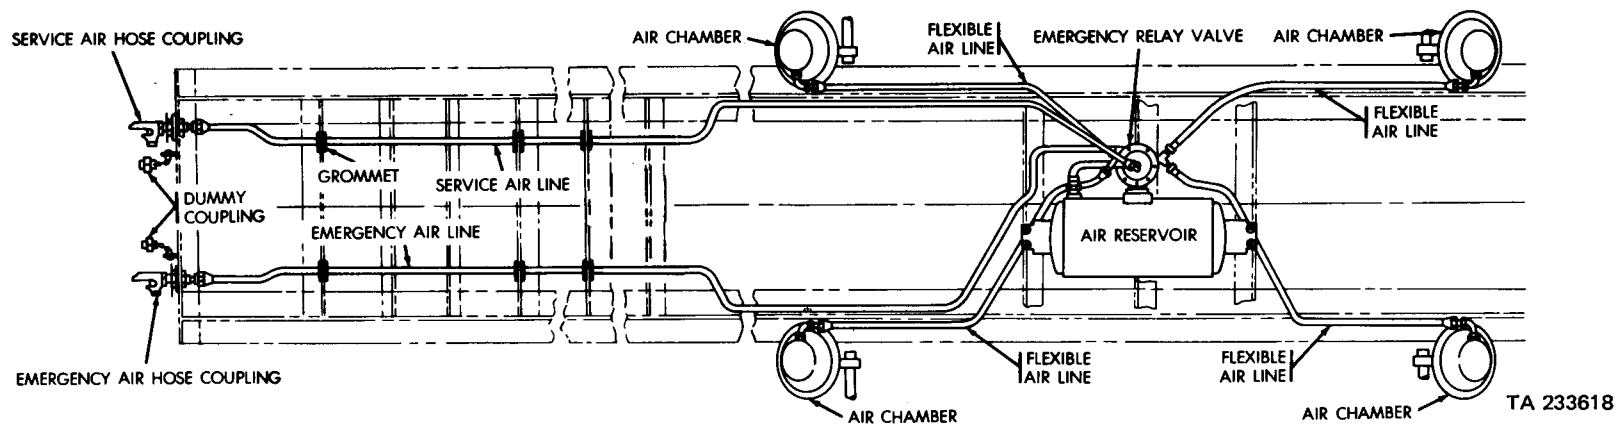
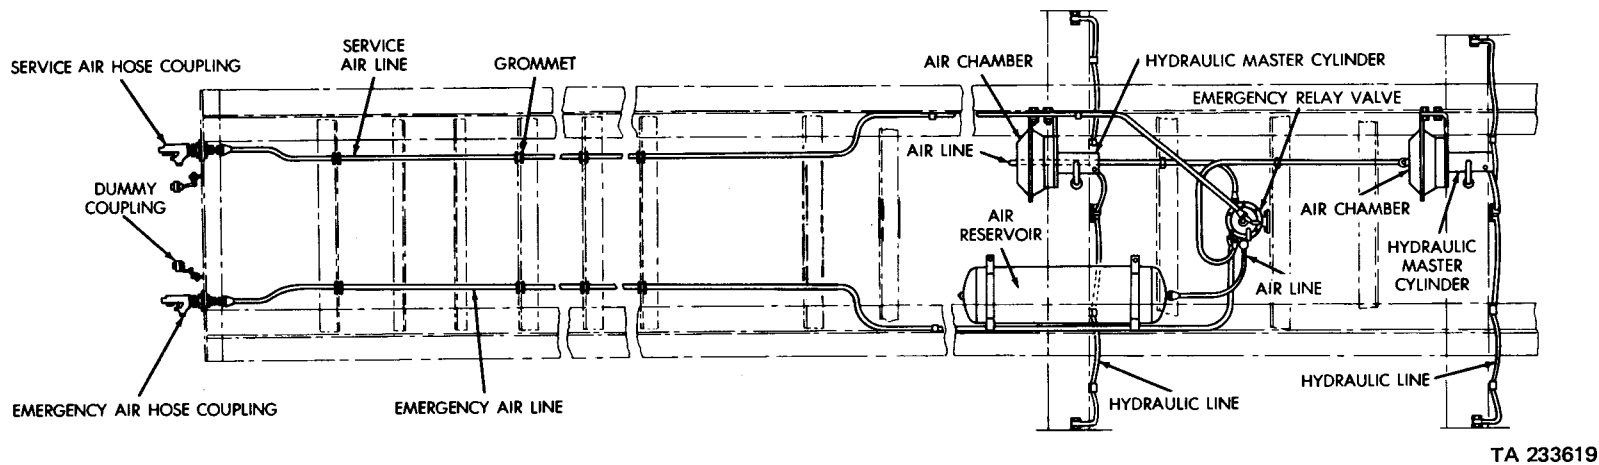
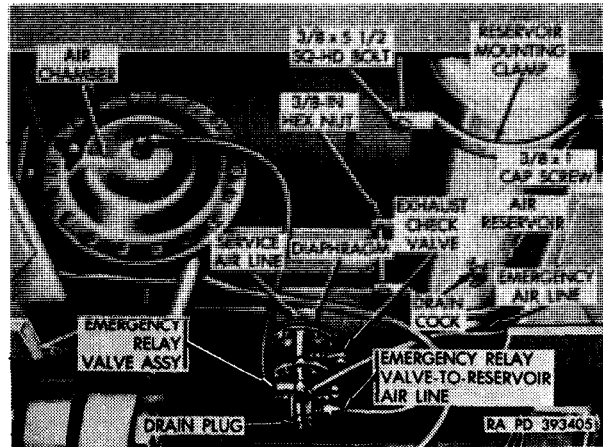

Figure 4-34. Schematic diagram of brake system (M127)
Figure 4-35. Schematic diagram of brake system (All models except M127)
Figure 4-40. Air chamber, emergency relay valve, air reservoir and lines (All models except M127)
- (1) M127. The brakes are the air-actuated type (fig. 4-34). Air pressure is used to operate the mechanical internal brakes at the semitrailer wheels. The brakes are applied in proportion to the foot pressure applied to the brake pedal of the towing vehicle.
- (2) All Models except M127. The brakes are the air-over-hydraulic type (fig. 4-35). Two hydraulic master cylinders, with air chambers operate the hydraulically actuated internal brakes.
g. Hydraulic Lines (All Models Except M127). The hydraulic lines (fig. 4-35) consist of two flexible lines and two rigid lines. The two flexible lines connect between each hydraulic master cylinder and a rigid hydraulic line mounted on each axle. A rigid line, with a tee in the center for connection to the flexible line is mounted on each of the axles. These rigid lines transmit hydraulic fluid to each internal brake assembly.
i. Service Air Line. The service air line (figs. 4-34 and 4-35) on the semitrailer extends from the air hose coupling (tagged SERVICE), on the right side of the front crossmember, along the right chassis longitudinal frame rail to an elbow in the top of the emergency relay valve (figs. 4-40 and 4-41). Its purpose is to transmit changes in air pressure originated in the towing vehicle, which causes the emergency relay valve to function.
j. Emergency Air Line. The emergency air line (figs. 4-34 and 4-35) on the semitrailer extends from its air hose coupling (tagged EMERGENCY), on the left side of the front crossmember, along the left longitudinal frame rail to a threaded opening near the bottom of the emergency relay valve (figs. 4-40 and 4-41). This air line transmits compressed air to fill the semitrailer reservoir and to maintain the proper air pressure, under control of the emergency relay valve, to apply the brakes on the semitrailer.
m. Emergency Relay Valve. The emergency relay valve on M 127 semitrailers is mounted on the semi-trailer air reservoir. The emergency relay valve (fig.4-40) on all models except M127 semitrailers, is mounted on a crossmember of the chassis frame at a point above and between the axles. The valve performs the same basic function on all of the above semitrailers. The valve directly controls the service brakes on the semitrailer. It speeds brake action by releasing air from the air reservoir, on the semitrailer directly to the air chambers. This eliminates the loss of time that would result if sufficient air to operate the brakes had to travel from an air reservoir on the towing vehicle to the air chambers. Also this valve controls the flow of air to and from the semitrailer air reservoir, and automatically applies the brakes if the semitrailer breaks away from the towing vehicle or if there is a serious leak in the emergency air line.
o. Air Reservoir. The air reservoir (figs. 4-34 and 4-41) on M127 semitrailers, is mounted on brackets attached to the chassis frame between the suspension mounting brackets. The air reservoir (figs. 4-35 and 4-41) on all models except M127 semitrailers, is secured by mounting clamps mounted on the left longitudinal frame rail just forward of the front-rear axle. The air reservoir is connected by a tube to the emergency relay valve and provides a supply of air on the semitrailer through the valve for applying the brakes. It is equipped with a drain cock for draining accumulations of moisture and for releasing air pressure in the semitrailer brake system, in the event of locked brakes.
- (3) Leakage tests.
- (a) With air brake system connected, apply soapy water to flanges which hold diaphragm (figs. 4-40 and 4-41) and to service air line coupling. No leakage is permitted. Tighten nuts on flanges and tighten coupling as required.
- (b) Coat exhaust check valve (figs. 4-40 and 4-41) with soapsuds. Apply brakes.
- (1) Drainage of moisture. Open drain cock (figs. 4-40 and 4-41) on air reservoir. Close drain cock after drainage.
- (2) Test and check for serviceability. With air brake system connected to towing vehicle, coat drain neck, pipe plugs, connections between emergency relay valve and reservoir, connector attaching air line to air reservoir, and outside of air reservoir (figs. 4-40 and 4-41) with soapsuds. No leakage is permissible. Tighten any leaking connections. Inspect for damage or corrosion. Replace reservoir if it leaks or if any damage or corrosion is found that would weaken reservoir.